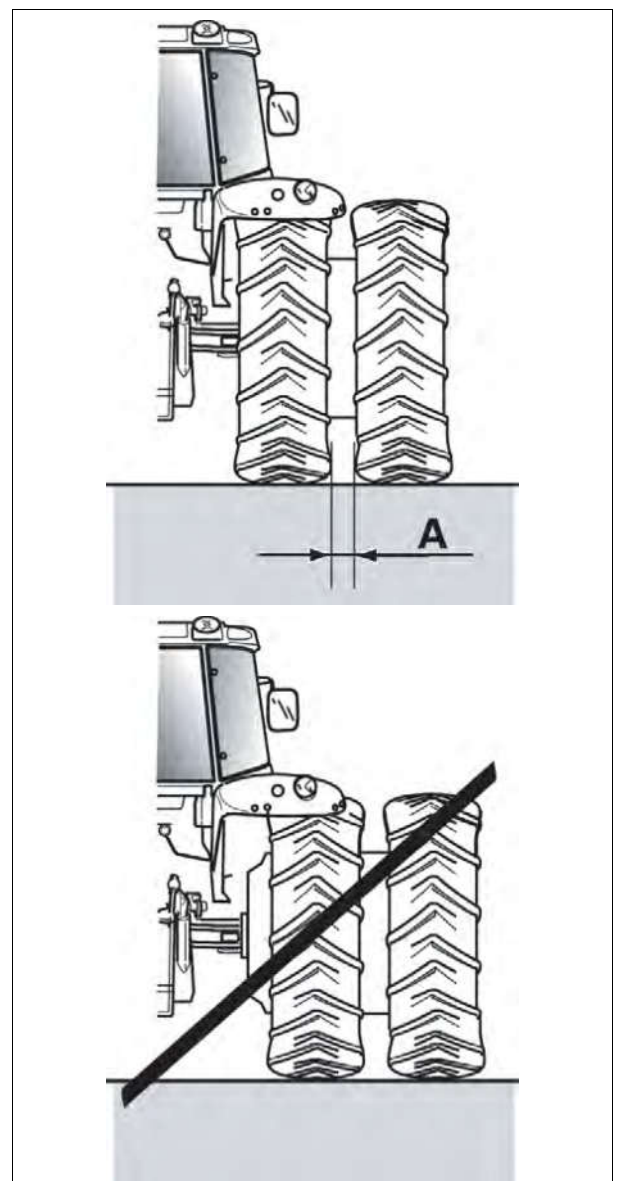

Fig. 8.
- Set the inner wheels to minimum track width fig. 8.